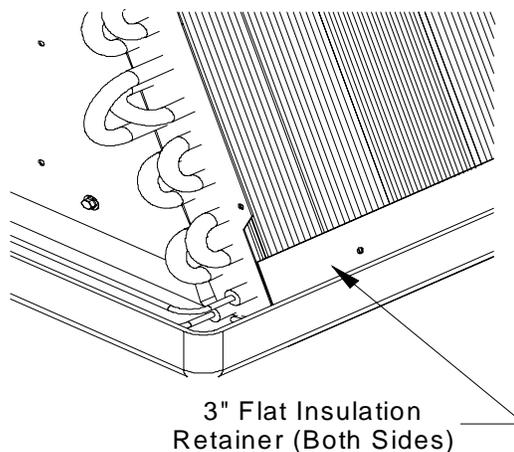

Figure 6
10. To prevent possible condensate “blow off” the insulation retainers are to be laid into the evaporator coil pan as shown in **Figure 6**.